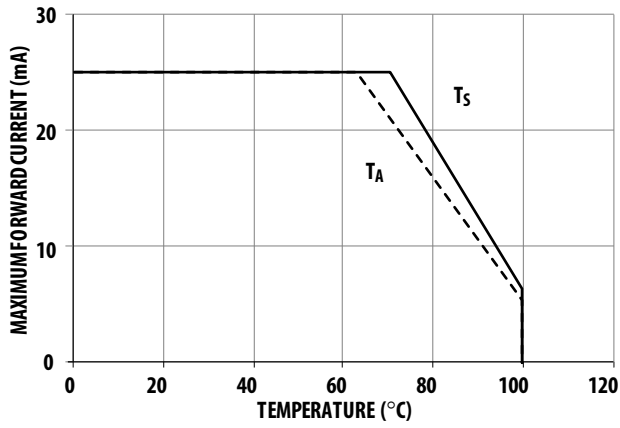

Figure 7. Maximum Forward Current vs. Temperature For Red (1 Chip On)
- Derate linearly as shown in Figure 7 to Figure 10.